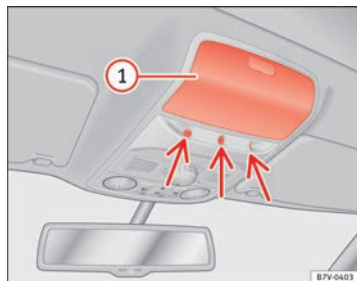

Fig. 48 On the roof console: interior monitoring sensors
Close the storage compartment → Fig. 48 ① on the roof console otherwise the interior monitoring function (arrow) may not work without restrictions.